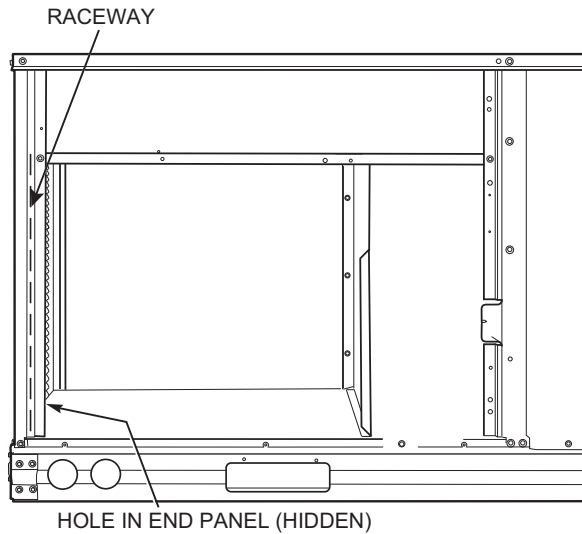

Fig. 42 — Field Control Wiring Raceway
Pass the thermostat control wires through the hole provided in the corner post; then feed the wires through the raceway built into the corner post to the control box. Pull the wires over to the terminal strip on the upper-left corner of the Central Terminal Board (CTB). See Fig. 42.
2. Feed wires through the raceway built into the corner post (see Fig. 42) to the 24v barrier located on the left side of the control box. The raceway provides the UL-required clearance between high-voltage and low-voltage wiring.
2. Feed wires through the raceway built into the corner post (see Fig. 42) to the 24-v barrier located on the left side of the control box. The raceway provides the UL-required clearance between high-voltage and low-voltage wiring.